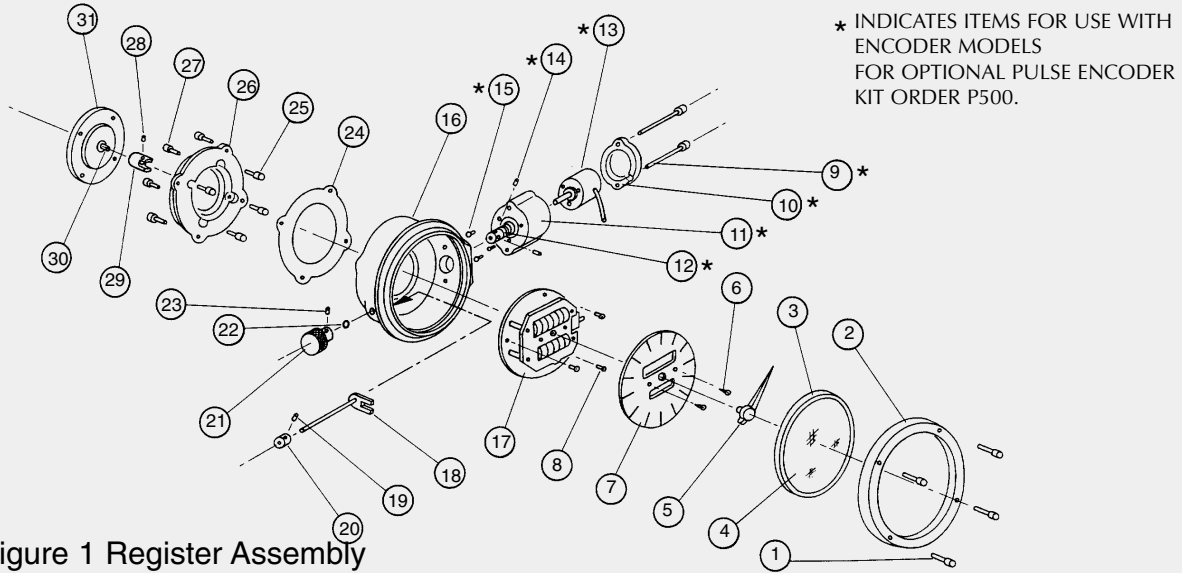

Figure 1 Register Assembly
Ensure that the fluid supply to the meter is disconnected, and the line pressure is released before disassembly. Refer to the exploded parts diagram Figure 1 and 2 on pages 3 and 4, respectively for item numbers.
Refer to Figure 1 unless otherwise stated
Refer to Figure 1 unless otherwise stated.
Note: Only available as a complete register assembly, order MS143s. Spare part includes items 18, 19 & 20 from figure 1.
The encoder (Item 13, refer Figure 1) is an Optical Incremental shaft Encoder. It has a 1000 pulses per revolution resolution output. The output is an open collector with 3 phases (A, B and Z) that can function on a 5 to 12 Volts